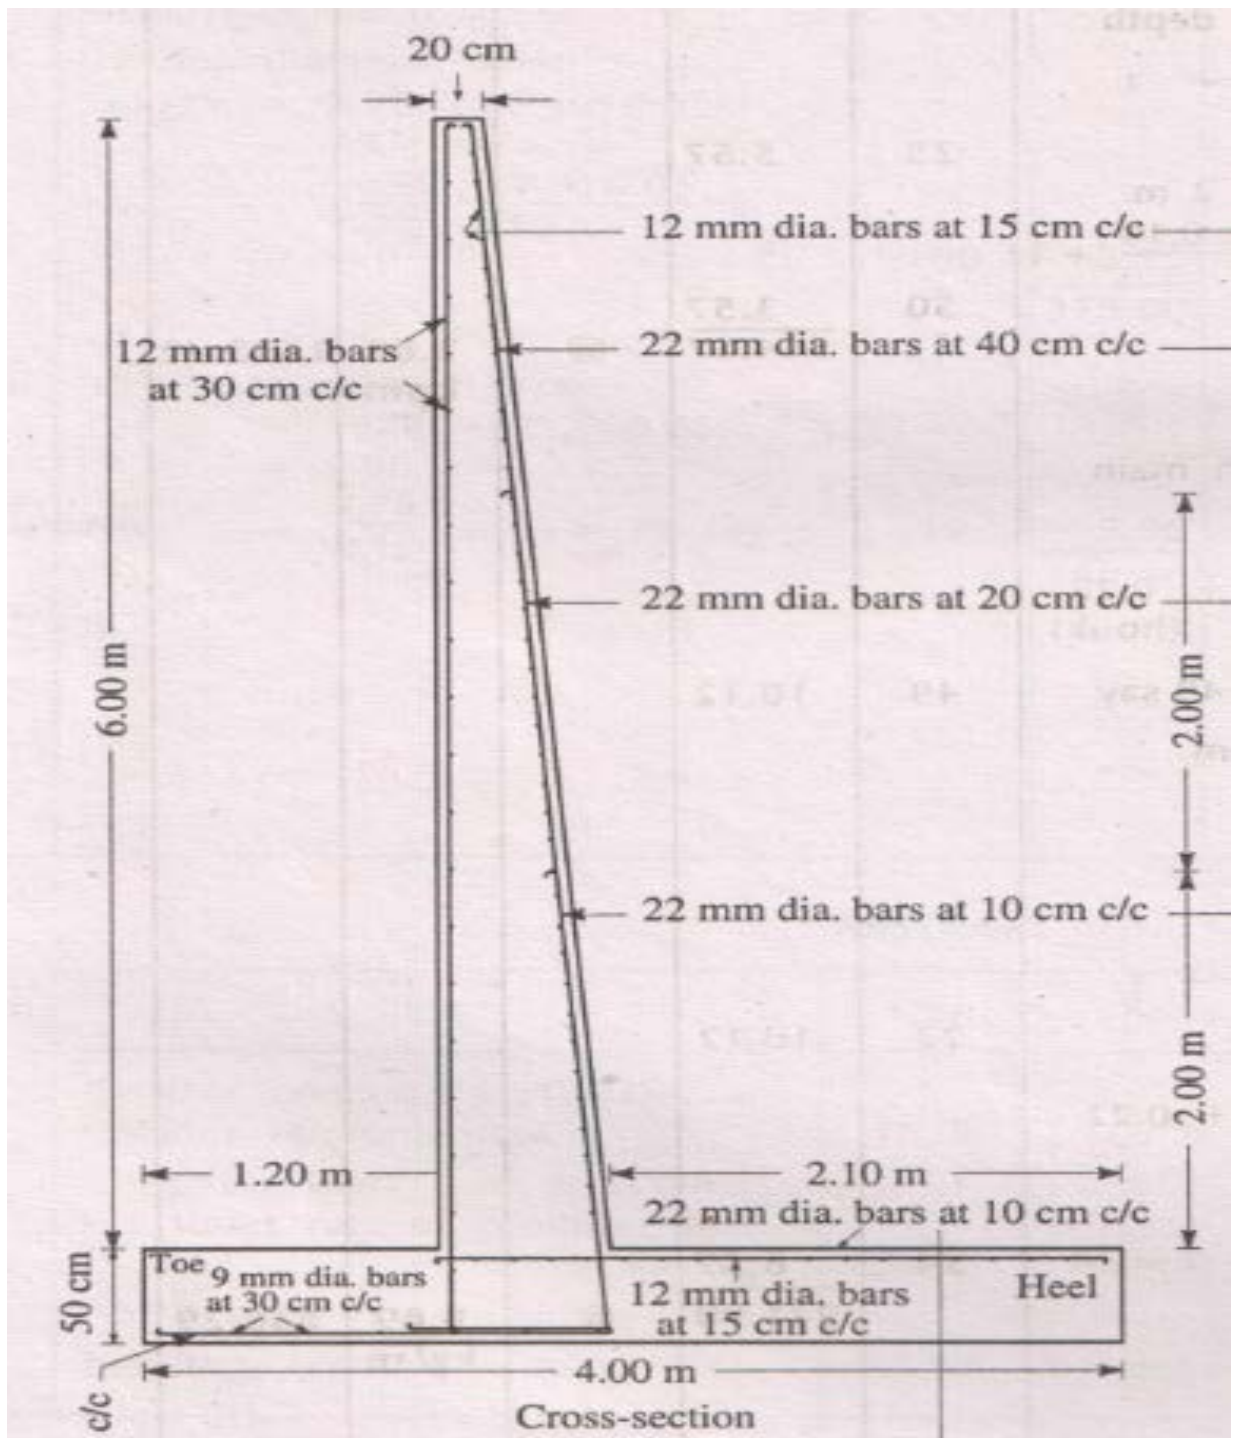

Figure 2:- RETAINING WALL
Q.3 (a) Calculate the quantities of cement concrete (1:1.5:3) from figure 2. **03**
- (a) Calculate the quantities of centering work from figure 2 **03**